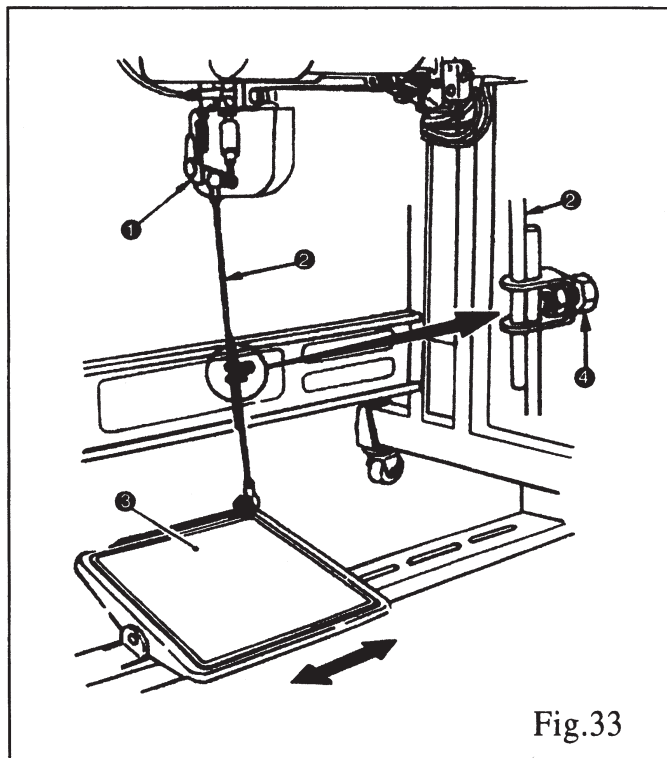

Fig.33
28. ADJUSTMENT OF THE PEDAL (FIG.33)